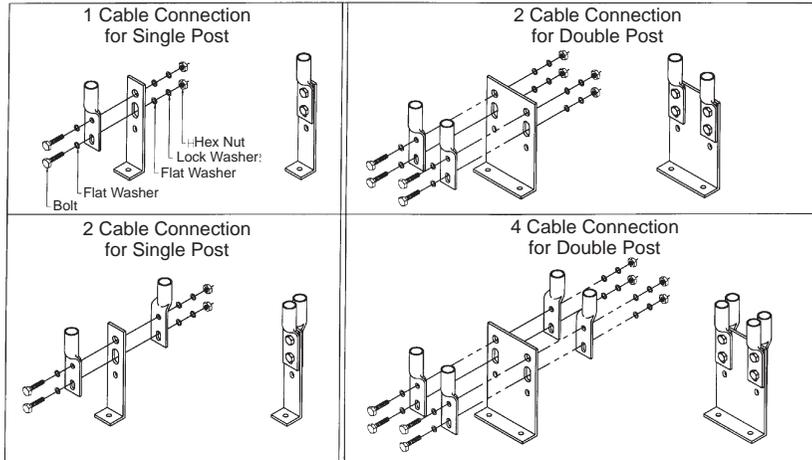

Figure 6-11: Cable Connection Assembly
3. For cable connection assembly, refer to Figure 6-11.